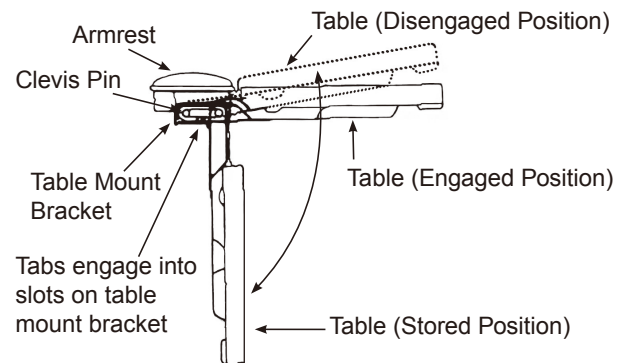

FIGURE 5
2. To return table to self-storing position: Lift table up until tabs disengage from slots. Slide out and allow table to lower. (See figure 5)